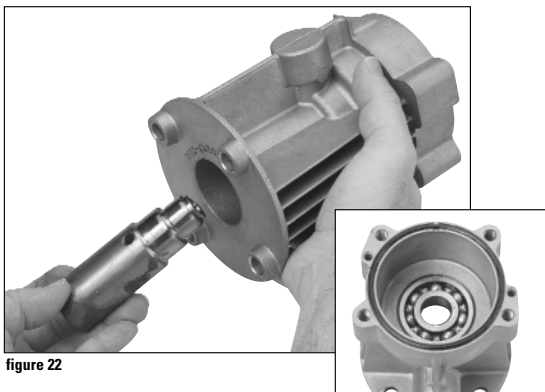

figure 22
3. Turn housing over and knock out the bearing by tapping it towards the front of the oil the reservoir using a suitable tool. (figure 22)